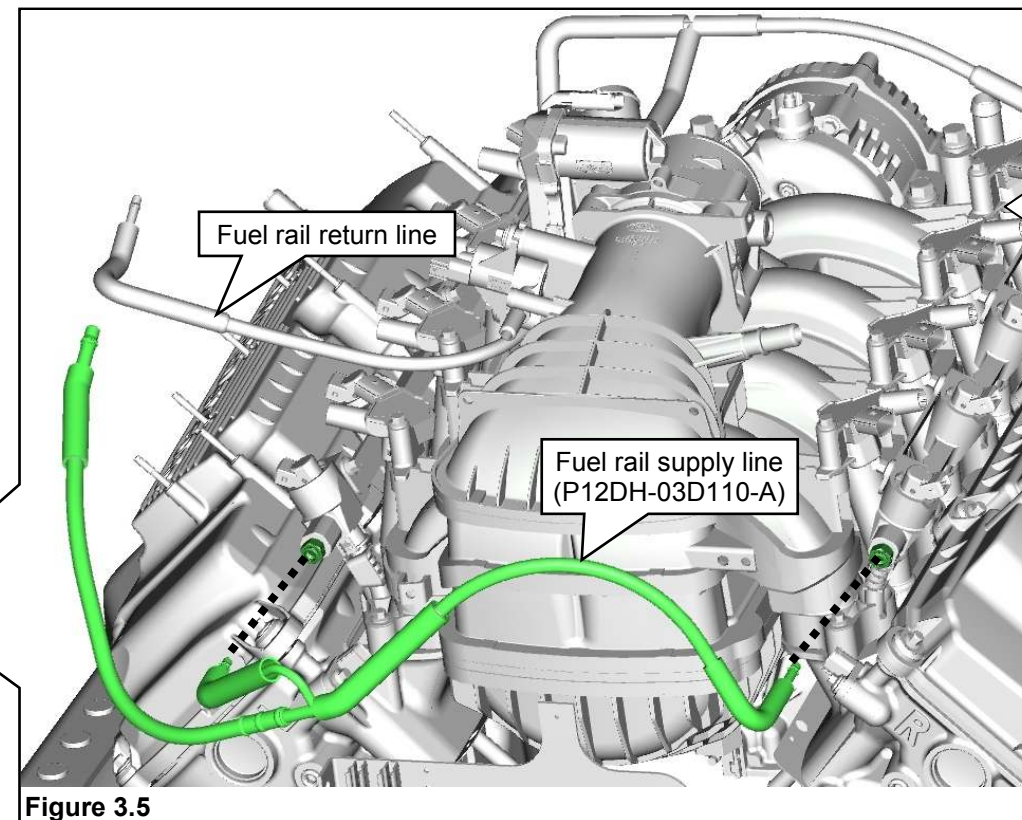

Figure 3.5
8. Orient and install the fuel rail supply line onto the rearward end of the fuel rails. Push the line ends into the quick-connect fitting on each rail until secure. Pull on the line ends to make sure they are correctly engaged with the fittings. **Note:** The unconnected end of the fuel rail supply line is connected after the FRPCM is installed. **Figure 3.5.**